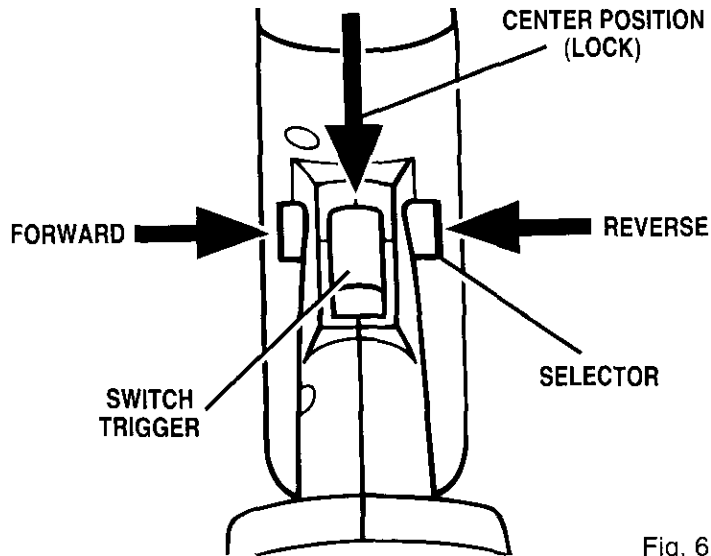

Fig. 6
- Lock switch trigger on your drill by placing the direction of rotation selector in center position. See Figure 6.
See Figure 6.
- Lock the switch trigger by placing the direction of rotation selector in center position. See Figure 6.